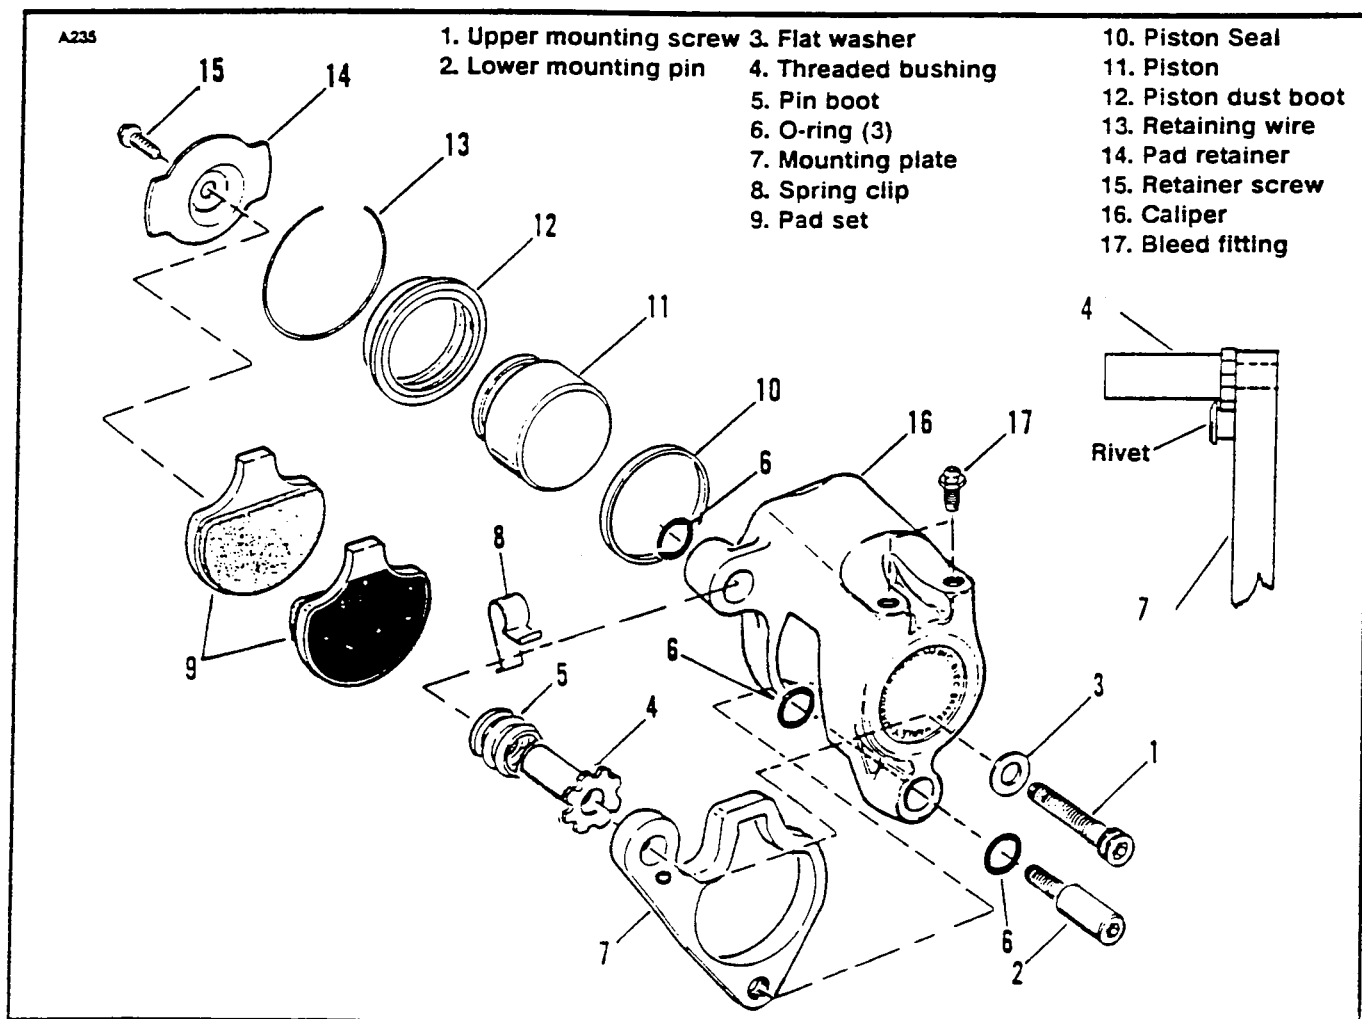

Figure 2. Front Brake Caliper
1. See Figure 2. Remove mounting fasteners (1, 2). Rock caliper by twisting the caliper outward and inward with your hands to force the piston into caliper to ease removal.
3. Remove screw (15) and inner pad (9).
4. Remove pad holder (7) and remove pad (9) from pad holder. Note position of spring clip (8) so it will be installed in the correct position.
See Figure 2, Assembled View of (4) and (7). The head of the threaded bushing (4) must be assembled beneath the rivet head on the pad holder (7). In addition, one of the U-shaped notches on the outer edge of the bushing flange must engage the rivet body. If the bushing is not positioned properly, damage to the rivet will occur when the caliper mounting fasteners are tightened.
10. See Figure 2. Insert lower mounting pin (2) through caliper and front fork lower mounting lug, and then thread pin into tapped hole at lower end of pad holder (7). Tighten pin to 25 - 30 ft-lbs torque.
12. Install upper mounting screw (1) with washer (3) through front fork upper mounting lug and pad holder (7), and then thread the screw into threaded bushing (4). Tighten screw to 25 - 30 ft-lbs torque.